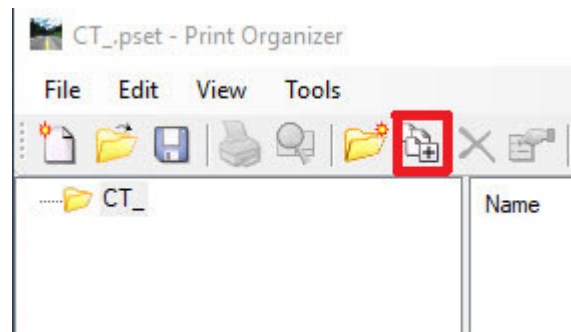

Figure 31 “Print Organizer Dialog ADD FILES”
5. Place the Legend Box on the plan sheet and fill out all the information for the Condemnation Map. (Figure 31 below)
Step 8. Select *ADD FILES TO SET* (figure 31 below)